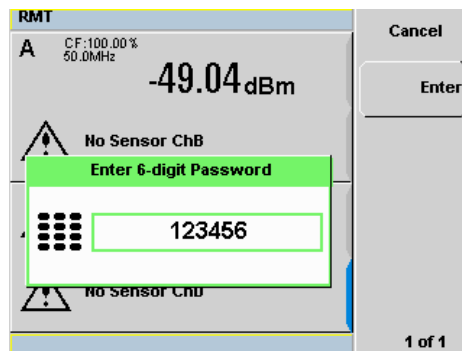

Figure 2-48 6-digit password entered
- 4 The entered password will be displayed (see Figure 2-48). Press **Enter**.